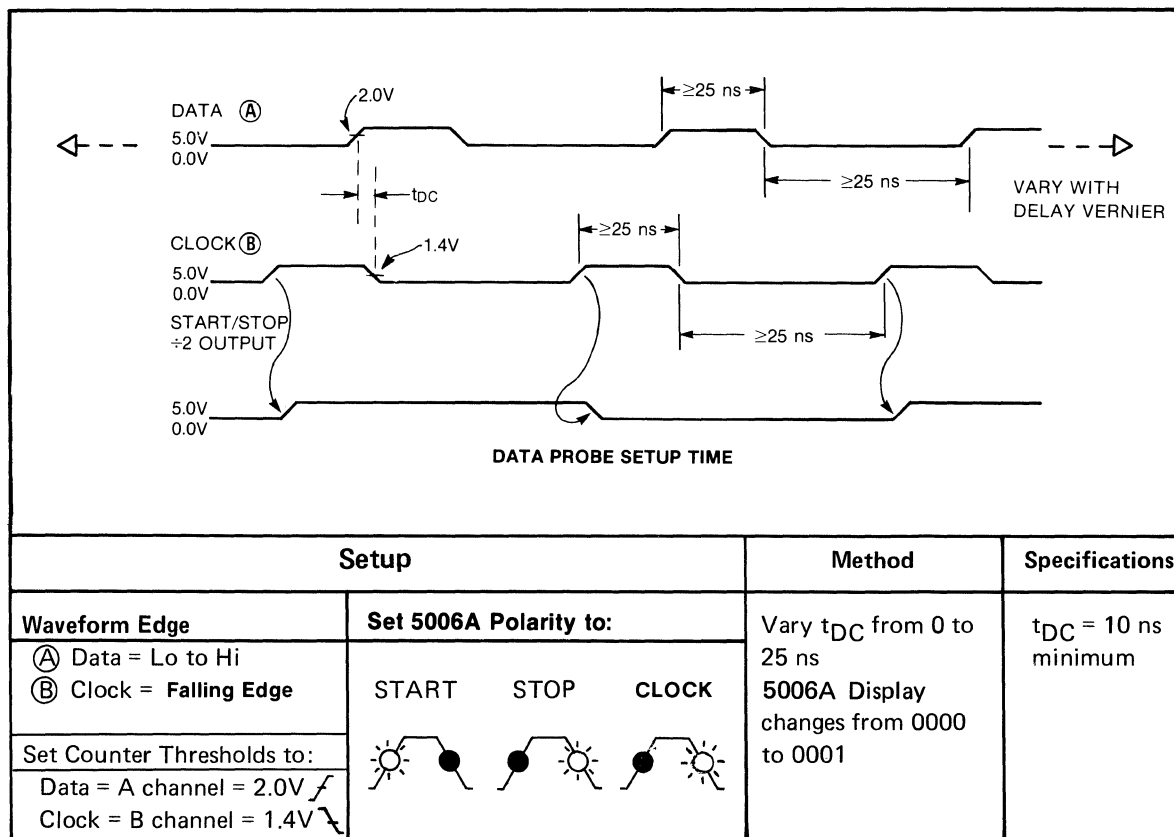

Figure 4-5. Data Probe Setup Time – Test 2
i. Repeat the procedure described in step h., for the remaining three t_{DC} tests, changing the tested slope edges as indicated in *Figures 4-5* through *4-7*. Record the results on the Performance Test Record.